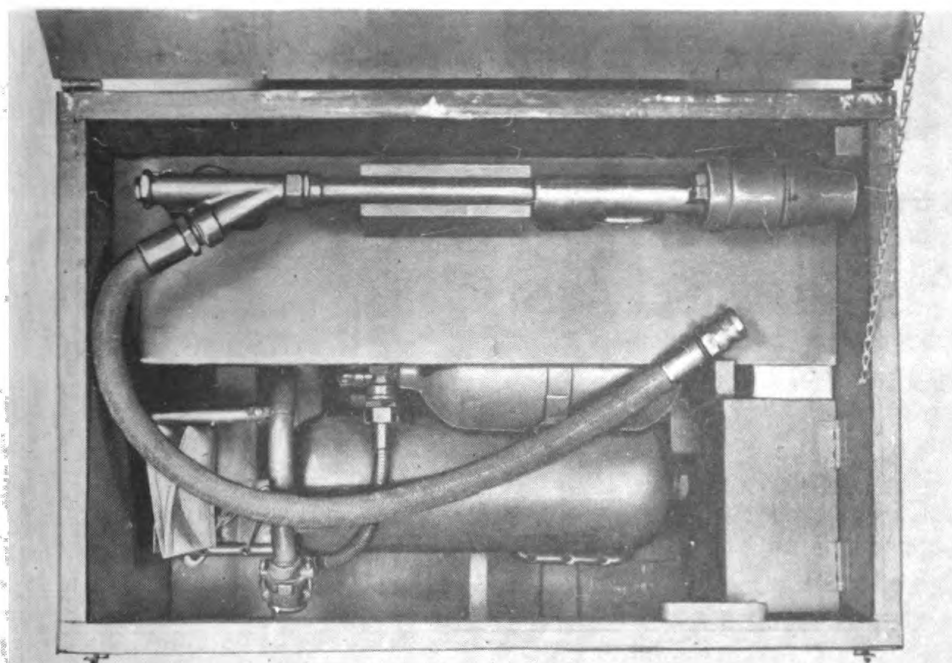

Fig 10. Packing chest open, with gun on mounting board. Tool kit, spare parts kit, and cans of ignition cylinders in boxes at right.
e. Gun mounting board. (Fig 10)
g. Remove mounting board and place gun with hose on the board as shown in Figure 10.